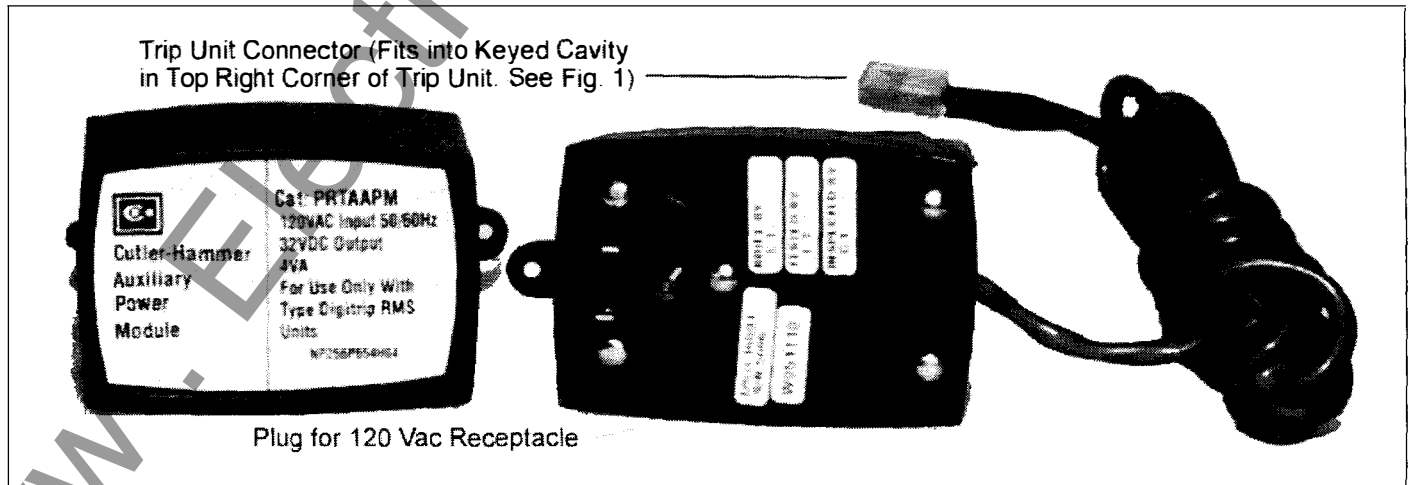

Fig. 7 Auxiliary Power Module
Since the Digitrip RMS 510 Trip Unit is completely self-powered using energy derived from the current sensors installed in the circuit breaker, all in-service tests conducted should be conducted with the auxiliary control power module, shown in Fig. 7, plugged into the trip unit. This action will avoid difficulties caused by load current levels that are too low to operate the trip unit.
- 1) **Before starting any test sequence**, check the Unit Status (Green LED) in the lower right corner of the trip unit (See Figs. 1 and 5) to be sure it is blinking on and off about once each second, which indicates that the trip unit is functioning normally. In the event the Unit Status LED is not blinking, install an Auxiliary Power Module (APM) (See Fig. 7), or if you have one already, check to see that it is connected correctly.
- a) *the current is not less than 10% of the breaker frame (or current sensor) rating; be sure the "GREEN" Unit Status LED (in the lower right corner of the trip unit (See Figs. 1 and 5) is blinking on and off (indicating that there is enough current flowing to provide the power necessary to operate the trip unit). In the event the Unit Status LED is either lighted "GREEN" or "OFF" continuously, there is NOT enough current flowing to power the trip unit; and an APM (See Fig. 7) should be installed before proceeding with the test.*
- 3) **When performing tests on the Long Delay element**, be aware that in addition to the standard protection element, the Digitrip RMS 510 Trip Unit also has a Long Time Memory function (LTM), which serves to protect load circuits from the effects of repeated overload conditions. (See NOTE 1 under Section 4.3 Long Delay Time Setting.) The action of the LTM will have the same effect of advancing the Long Delay Trip Time if multiple Long Delay Time tests are performed repeatedly - as one might do in making single phase tests on each pole of a breaker in succession, for example. If you have sufficient experience in performing tests with this kind of accelerated trip timing, you may be comfortable with the results of tests performed in quick succession. However, if there is any question, you may simply wait about ten (10) minutes after a Long Delay Trip for the LTM to reset, before you check the next pole.
For testing the trip unit, an optional Auxiliary Power Module (Cat. No. PRTAAPM) as shown in Fig. 7 is recommended. This Auxiliary Power Module, which operates from a separate 120 Vac supply, may be used when a drawout circuit breaker is in any of its four cell positions, i.e., "Connected", "Test", "Disconnected" and "Withdrawn" (or "Removed.")
Note: For Testing Purposes Only: When using an external single phase current source to test low level ground fault current settings, it is advisable to use the Auxiliary Power Module (APM) (See Fig. 7). Especially when the single phase current is low, without
The Auxiliary Power Module or APM (Cat No. PRTAAPM), illustrated in Fig. 7, is an encapsulated power supply that requires a 120 Vac input at either 50 or 60 Hz. It provides an output of 32 Vdc (nominal 40 Vdc open circuit) which can be used for testing a Digitrip RMS 510 Trip Unit.